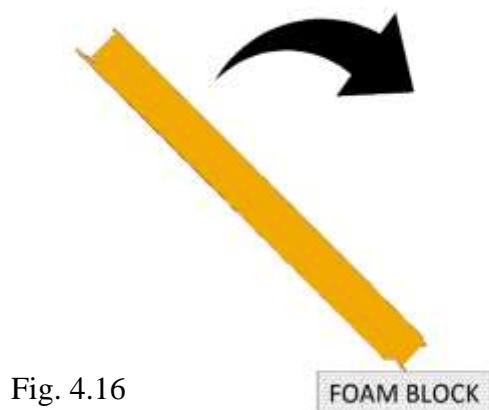

Fig. 4.16
4.16 Rotate panels onto the leading edge (side with clip shelf) before carrying. Use foam blocks (from bundles) to prevent panel edge damage as shown in Figure 4.16.